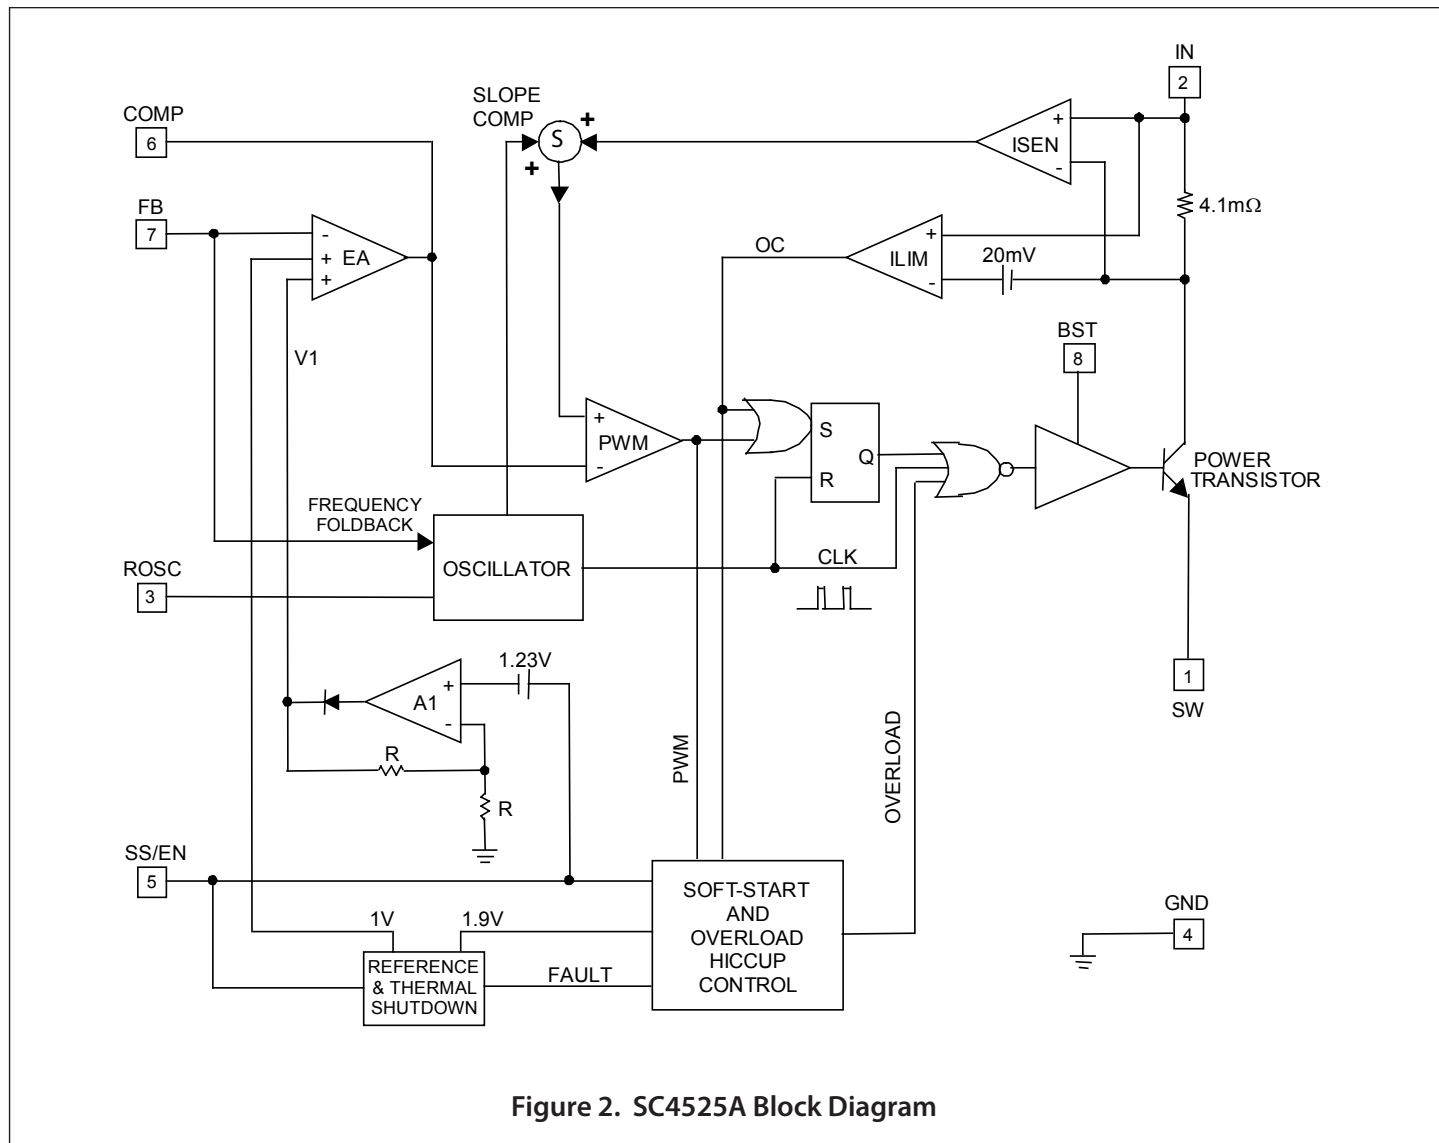

Figure 2. SC4525A Block Diagram
As shown in Figure 2, the switch collector current is sensed with an integrated 4.1mΩ sense resistor. The sensed current is summed with a slope-compensating ramp before it is compared with the transconductance error amplifier (EA) output. The PWM comparator trip point determines the switch turn-on pulse width. The current-limit comparator ILIM turns off the power switch when the sensed signal exceeds the 20mV current-limit threshold.
The error amplifier EA in Figure 2 has two non-inverting inputs. The non-inverting input with the lower voltage predominates. One of the non-inverting inputs is biased to a precision 1V reference and the other non-inverting input is tied to the output of the amplifier  $A_1$ . Amplifier  $A_1$  produces an output  $V_1 = 2(V_{SS/EN} - 1.23V)$ .  $V_1$  is zero and COMP is forced low when  $V_{SS/EN}$  is below 1.23V. During start up, the effective non-inverting input of EA stays at zero until the soft-start capacitor is charged above 1.23V. Once  $V_{SS/EN}$  exceeds 1.23V, COMP is released. The regulator starts to switch when  $V_{COMP}$  rises above 0.4V. If the soft-start interval is made sufficiently long, then the FB voltage (hence the output voltage) will track  $V_1$  during start up.  $V_{SS/EN}$  must be at least 1.83V for the output to achieve regulation. Proper soft-start prevents output overshoot. Current drawn from the input supply is also well controlled.
As the load draws more current from the regulator, the current-limit comparator ILIM (Figure 2) will eventually limit the switch current on a cycle-by-cycle basis. The over-current signal OC goes high, setting the latch B3. The soft-start capacitor is discharged with (ID - IC) (Figure 3). If the inductor current falls below the current limit and the PWM comparator instead turns off the switch, then latch B3 will be reset and IC will recharge the soft-start capacitor. If over-current condition persists or OC becomes asserted more often than PWM over a period of time, then the soft-start capacitor will be discharged below 1.9V. At this juncture, comparator B4 sets the overload latch B2. The soft-start capacitor will be continuously discharged with (ID - IC). The COMP pin is immediately pulled to ground. The switching regulator is shut off until the soft-start capacitor is discharged below 1.0V. At this moment, the overload latch is reset. The soft-start capacitor is recharged and the converter again undergoes soft-start. The regulator will go through soft-start, overload shutdown and restart until it is no longer overloaded.
The PWM latch in Figure 2 is reset every cycle by the clock. The clock also turns off the power transistor to refresh the bootstrap capacitor. This minimum off time limits the attainable duty cycle of the regulator at a given switching frequency. The measured minimum off time is 100ns typically. If the required duty cycle is higher than the attainable maximum, then the output voltage will not be able to reach its set value in continuous-conduction mode.